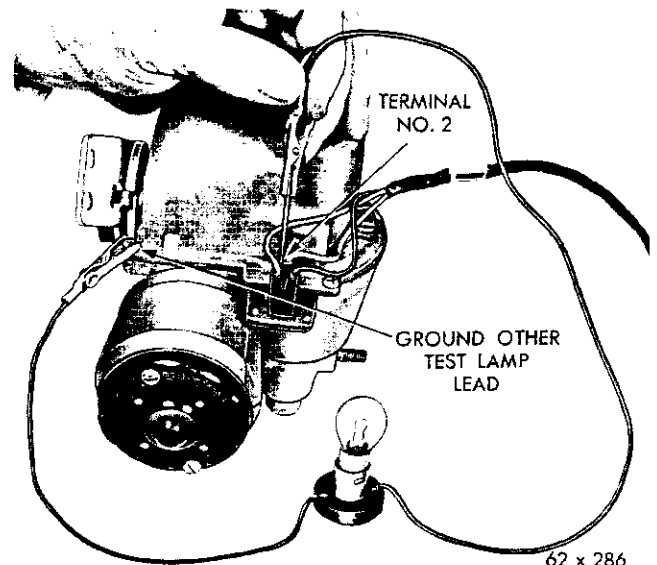

Fig. 42—Electrical Test (Terminal 2)
(1) Turn the ignition "ON", but do not start the engine.
(2) Ground one lead of a test lamp and connect the other lead to terminal #2 (Fig. 42).
(3) If the lamp lights, the circuit is normal. If the lamp does not light, inspect for full brake pedal return. The brake pedal must return to normal for switch to operate. If the lamp still does not light, inspect for an improperly positioned or faulty brake switch.
(4) Remove the switch from its mounting bracket and lift it away from the brake pedal arm without disconnecting the wires. If the test lamp lights, the switch was improperly positioned. If the lamp does not light, the switch is faulty and must be replaced.
(5) To properly position the switch, it must be located so the test light will "go out" within the first $\frac{1}{2}$ inch of brake pedal pad travel.
lamp lead and test terminal #2 with the other test lamp lead. (Fig. 42). If the lamp lights, the circuit is normal. If the lamp fails to light, the brake switch is faulty or improperly positioned. Test for full brake pedal return.